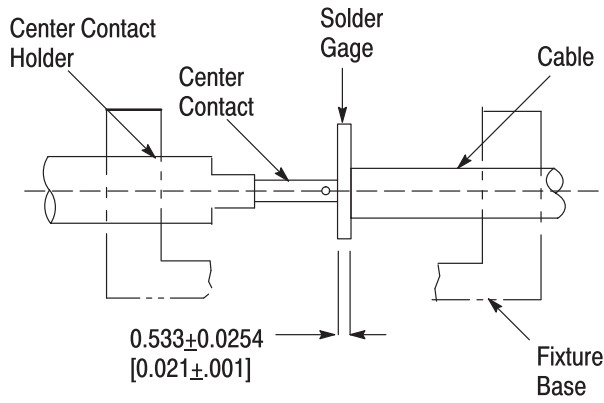

Figure 4
3. Place the center contact in the center contact holder, heat the center contact, and push it over the inner conductor so that it rests firmly against the solder gage. See Figure 4.
- Corrected dimension in Figure 4